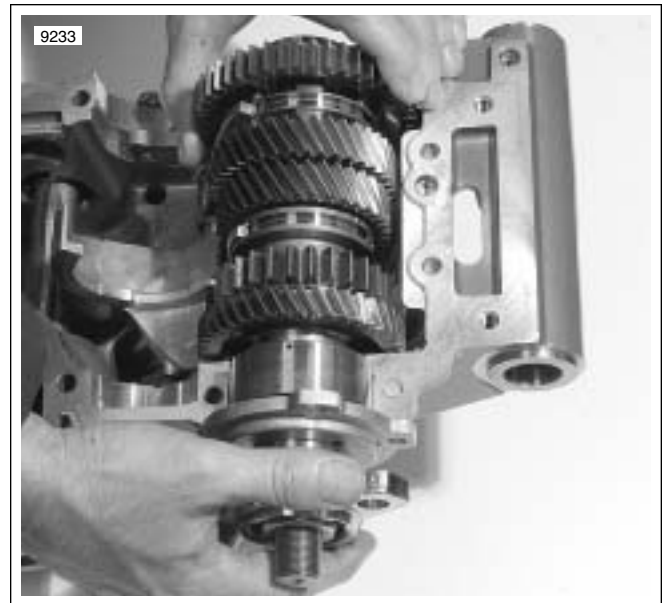

Figure 3-122. Output Shaft
22. See Figure 3-122. Remove output shaft.